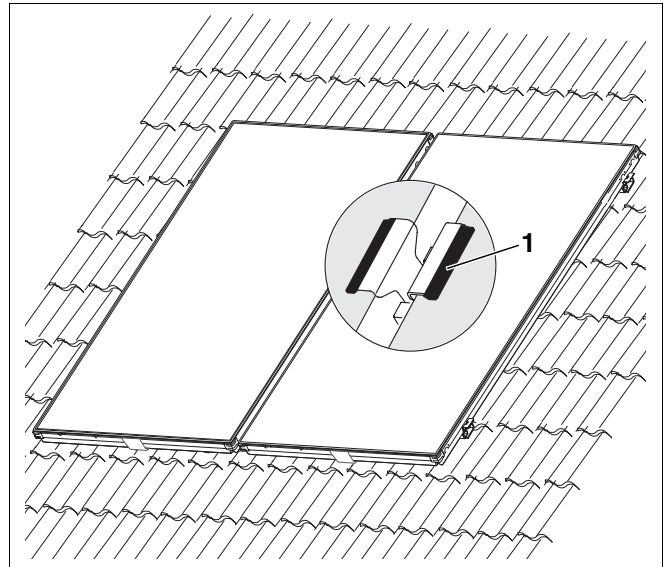

Fig. 36 Securing collectors centrally
- Position the edge of the double clamp onto the glass panes of the collectors (Fig. 36).
Ensure that the protective caps (Fig. 36, **Item 1**) of the double clamps are present.